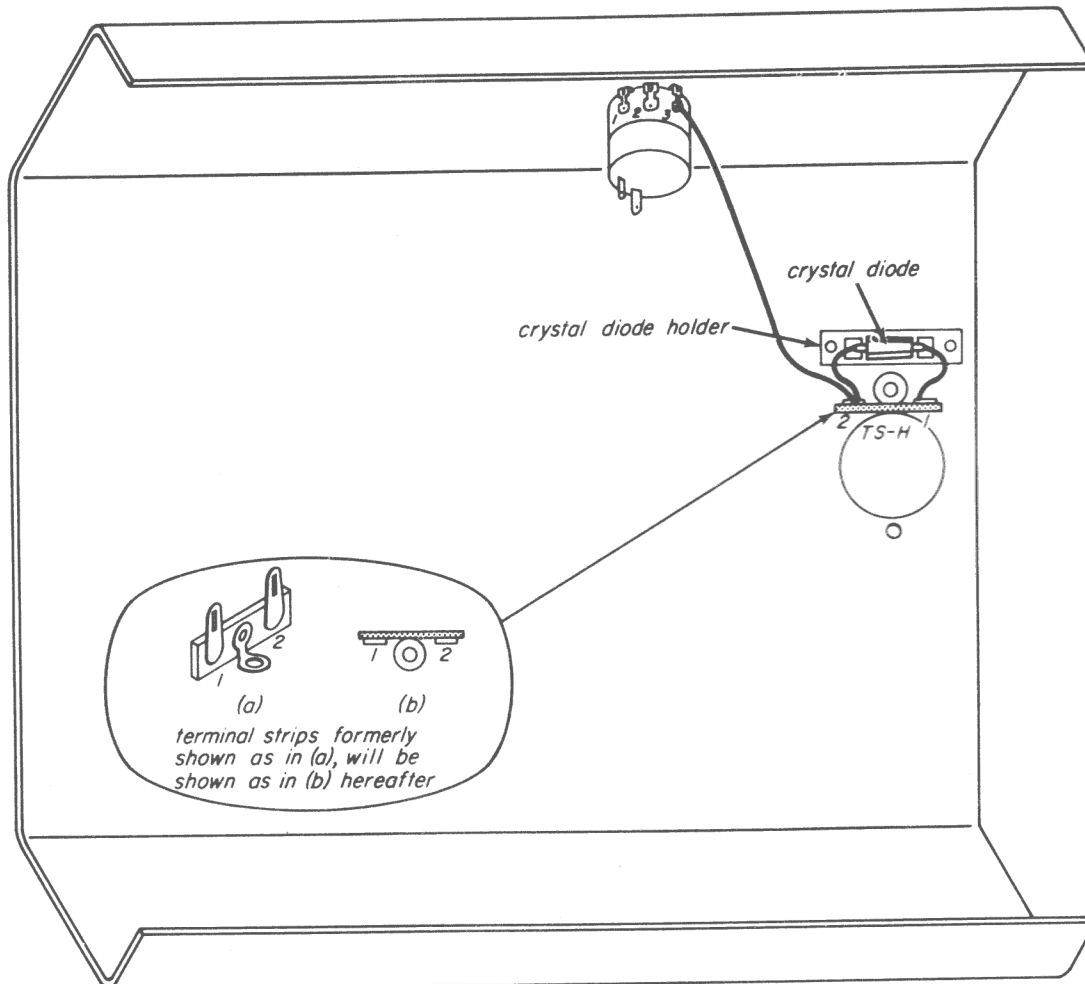

Fig. 27-2
Step 3. Mount a 2-lug terminal strip in the position shown in Fig. 27-2. This terminal strip will be referred to as TS-H. Label it on your chassis.